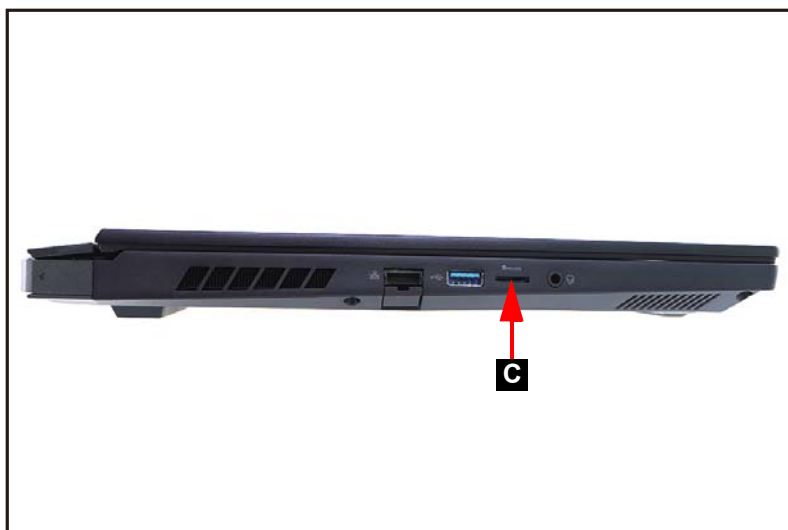

Figure 1-2. MicroSD Card Removal
5. Remove the microSD card from the microSD card slot (C) (Figure 1-2).